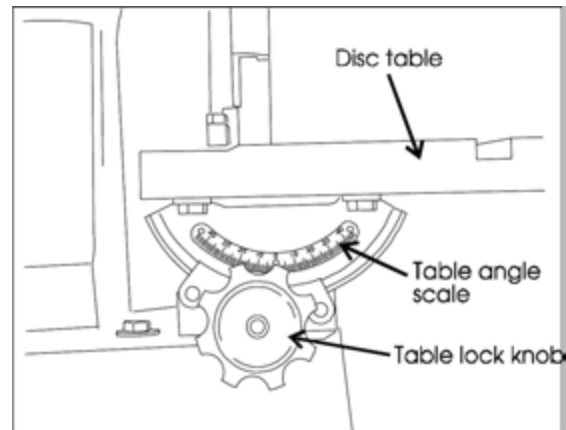

Figure 12: Disc sander table adjustment
1. Unlock the two locking knobs underneath the table at each end (See Figure 12).